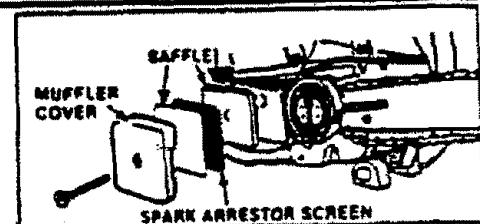

Figure 37
Maintain the proper hook angle according to the manufacturer's specification for the chain you are using. Improper hook angle will increase the chance of kickback which can result in serious injury. Figures 37 & 39.
- Remove the Muffer Cover. Figure 37.